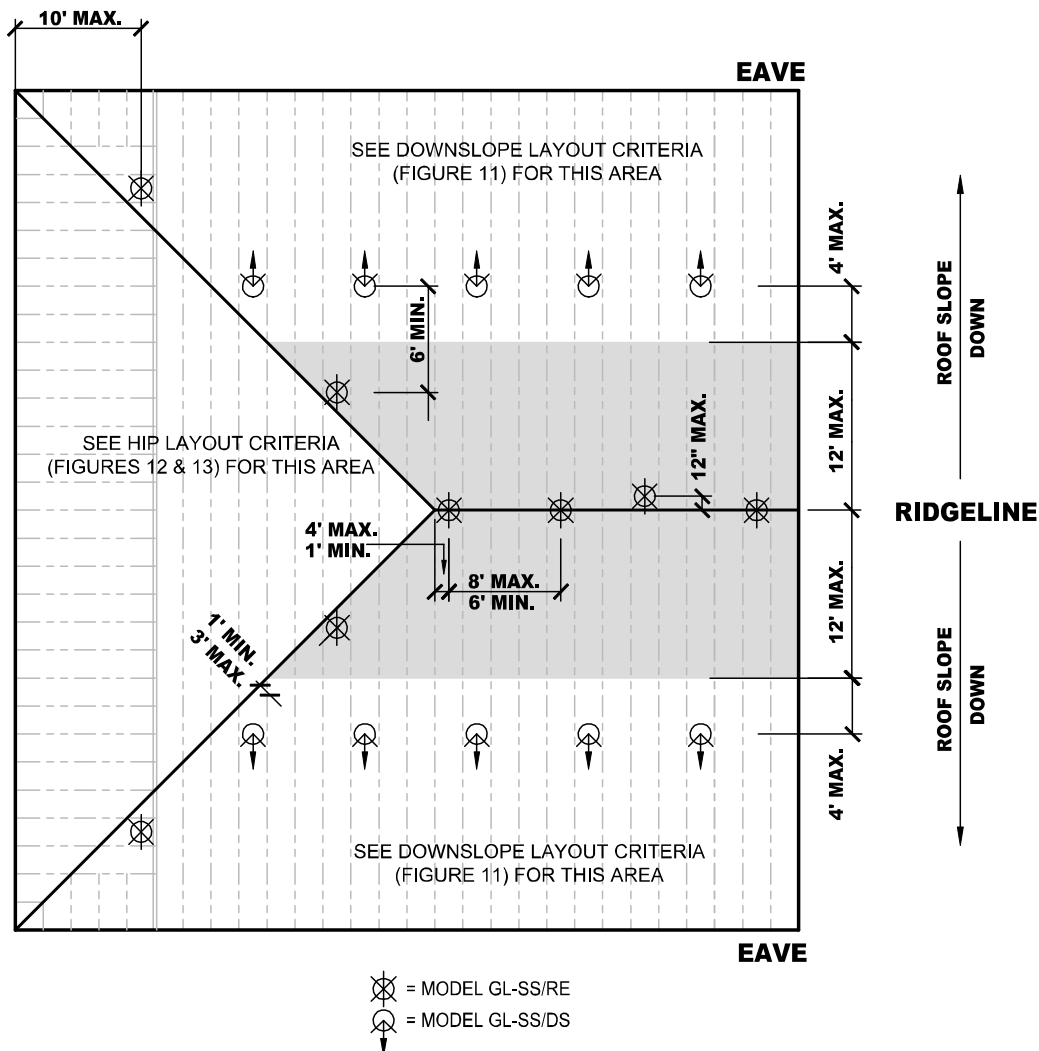

FIGURE 10: RIDGELINE LAYOUT CRITERIA
- This approach utilizes the GL-SS/RE sprinklers at the Ridgeline and downslope covering to the eave. (See Figure 10 for dimensional limitations)
- The maximum span of this approach is 72 ft or a half span of 36 ft. as measured horizontally. (See Figures 10 and 11 for dimensional limitations)